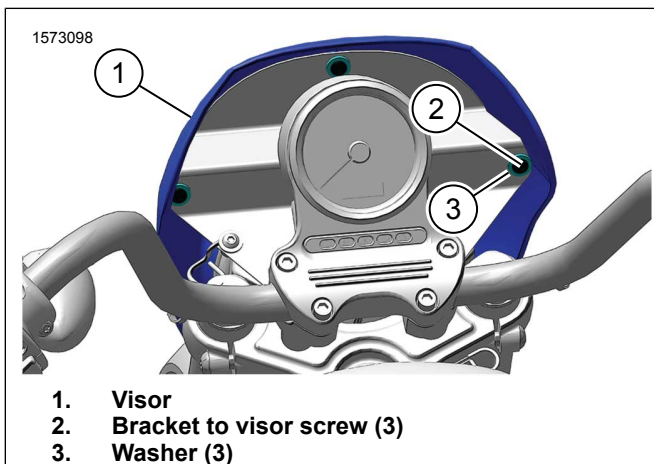

Figure 2. Visor Bracket to Visor
1. See Figure 2. Position visor (1).
2. Install bracket to visor washers (3) and screws (2). Tighten.